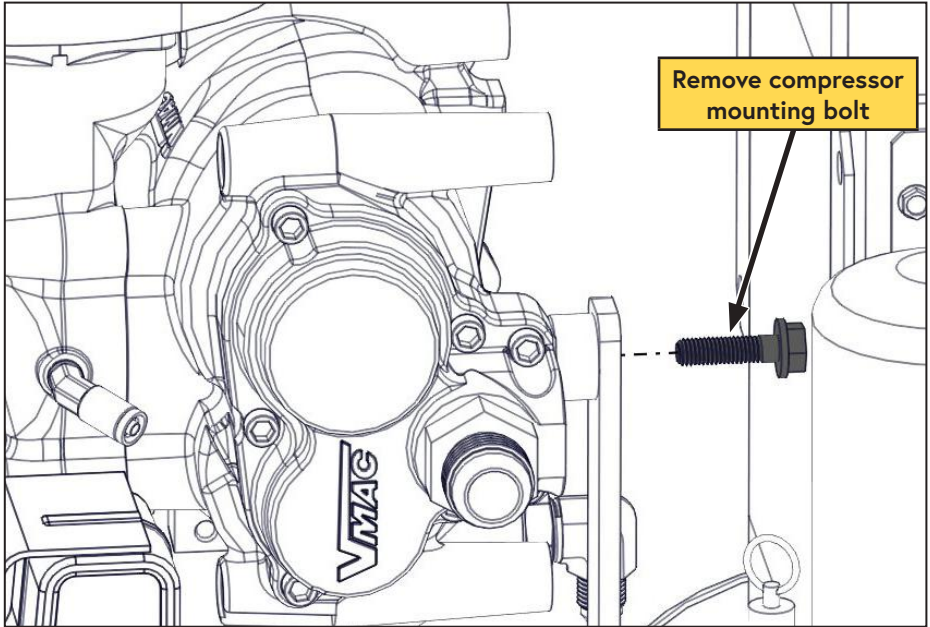

Figure 67 — Remove compressor
- Remove the bolt from the side of the compressor (Figure 67).